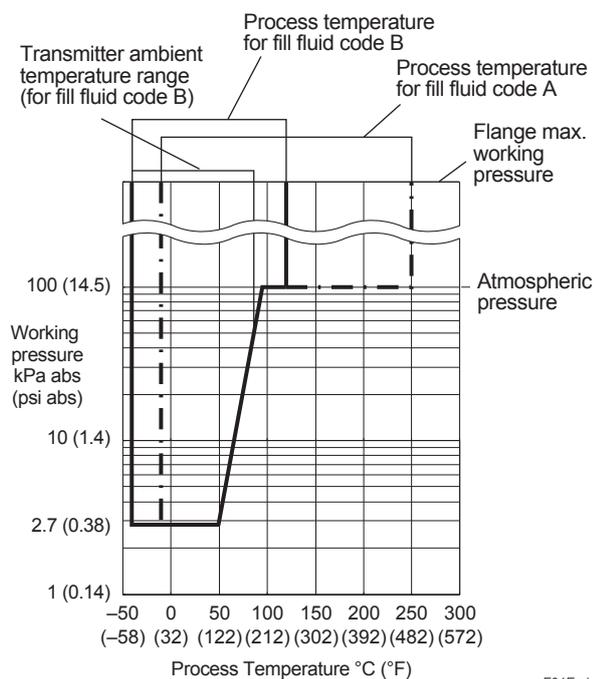

Figure 1. Working Pressure and Process Temperature (Fill fluid: silicone oil for general and high temperature use)
- For atmospheric pressure or below, see figure 1.
- *1: See figure 1 'Working Pressure and Process Temperature.'